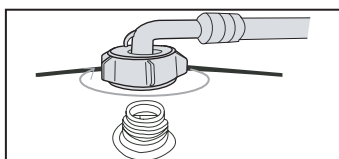

Fig. 4
1. Connect the elbow to tap and fasten it clockwise. (Fig. 4)